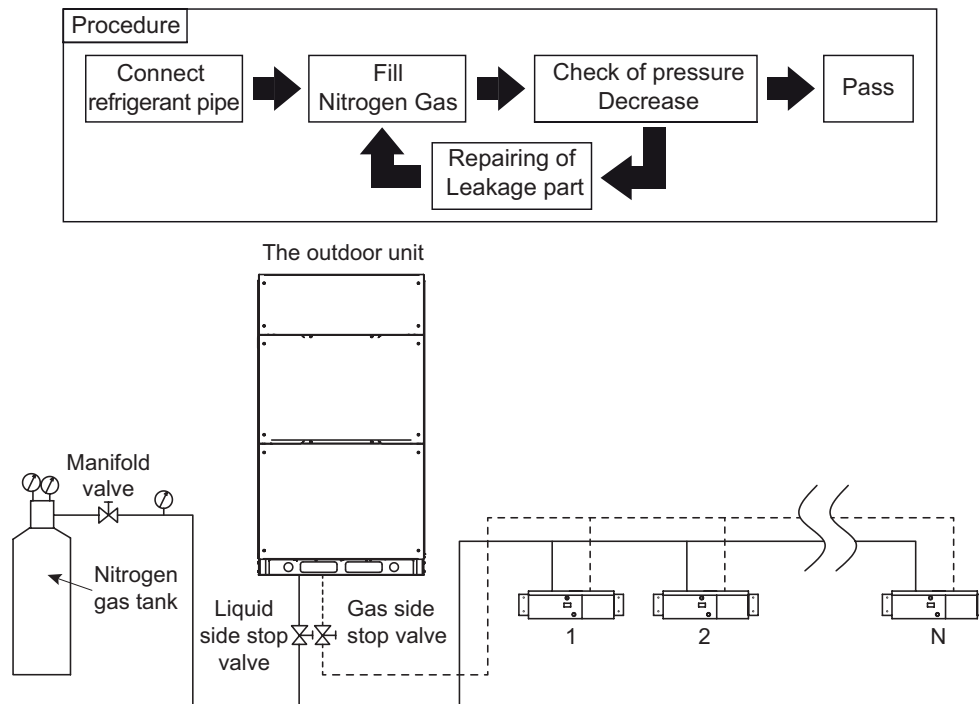

Figure 8.1 Air tightness test
- Isolate and protect the gas side stop valve, and do not directly charge to the gas side stop valve (see Figure 8.1).